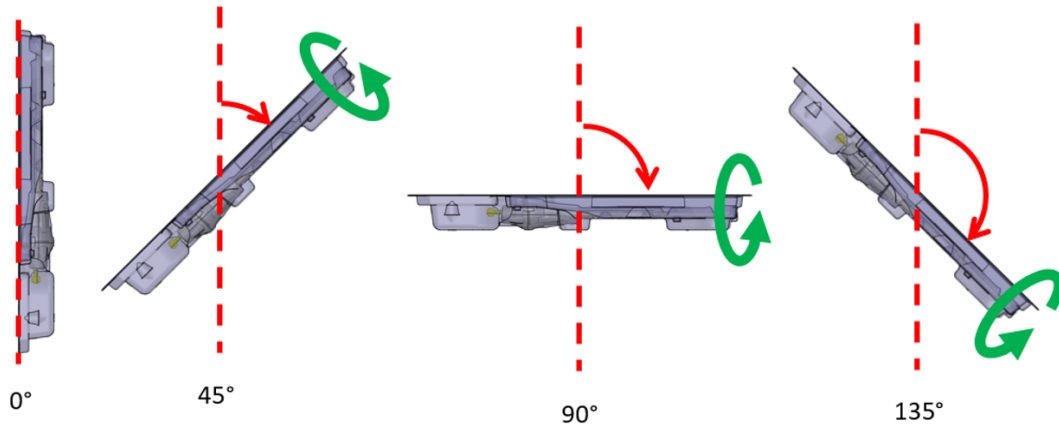

Figure 14: Recommended procedure for purging air from ultrasound applicator
- b. While the purging operation is on, hold the UA in its package—to keep the UA sterile, be careful not to touch the UA handle. Tip the package upwards in the 0° position, then tilt to approximately 45°, then 90°, and 135°. At each angle, slowly rotate the package approximately 360° and tap continuously along the packaging to dislodge any bubbles in the handle and shaft (Figure 14).